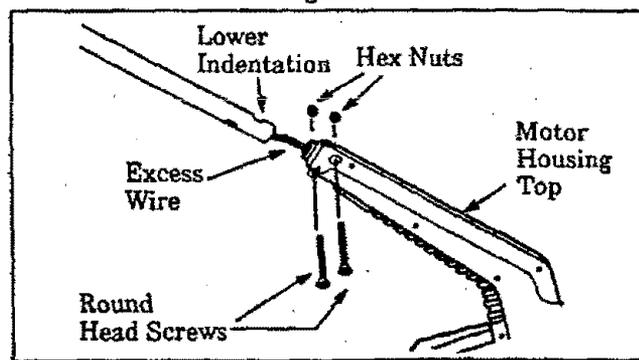

Figure 2
6. Remove the round head screw and hex nut located at the top of the motor housing with a Phillips screwdriver. Figure 2.
7. Slide the excess wire into the top of the motor housing. Figure 2.
9. Install the round head screw and hex nut removed in step 6., and the round head screw and hex nut from the carton. Figure 2. Tighten securely.